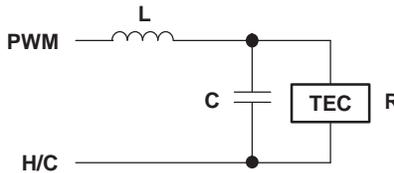

Figure 22. Output Filter
The transfer function for a second-order low-pass filter (Figure 22) is shown in Equation 5:
For the DRV593 and DRV594, the differential output switching frequency is typically selected to be 500 kHz. The resonant frequency for the filter is typically chosen to be at least one order of magnitude lower than the switching frequency. Equation 5 may then be simplified to give the following magnitude Equation 6. These equations assume the use of the filter in Figure 22.
- Changed figure cross reference from "Figure 17 and Figure 18" to "Figure 22" in the "LC FILTER....." section. **14**